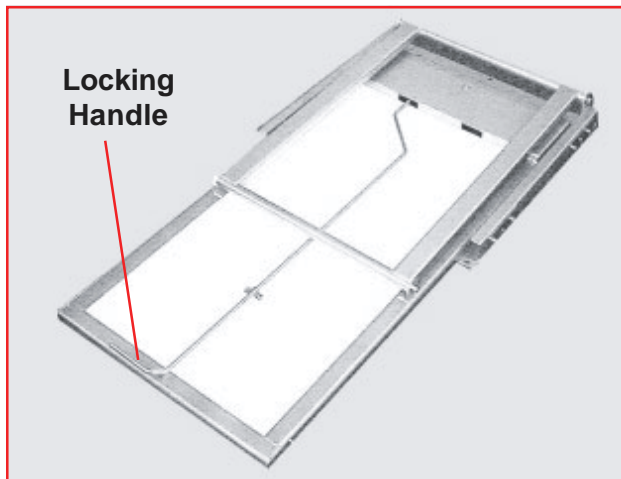

Figure 2. Folding Table Laying Down
1. Remove the table from the shipping carton and lay it on the floor with the table top surface down (Figure 2).